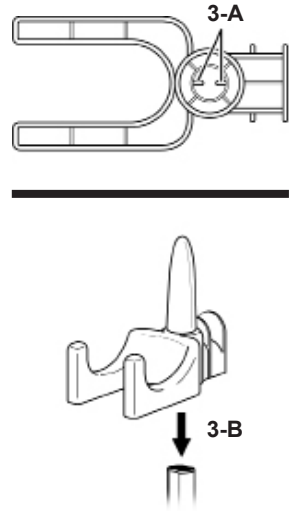

FIGURE 3
1. Look at underside of Pole Top, and locate two guide ridges (FIGURE 3-A).
3. Slide Pole Top onto SECTION 1 of Telescopic Pole (FIGURE 3-B). Press down firmly until Pole Top fits securely in place.